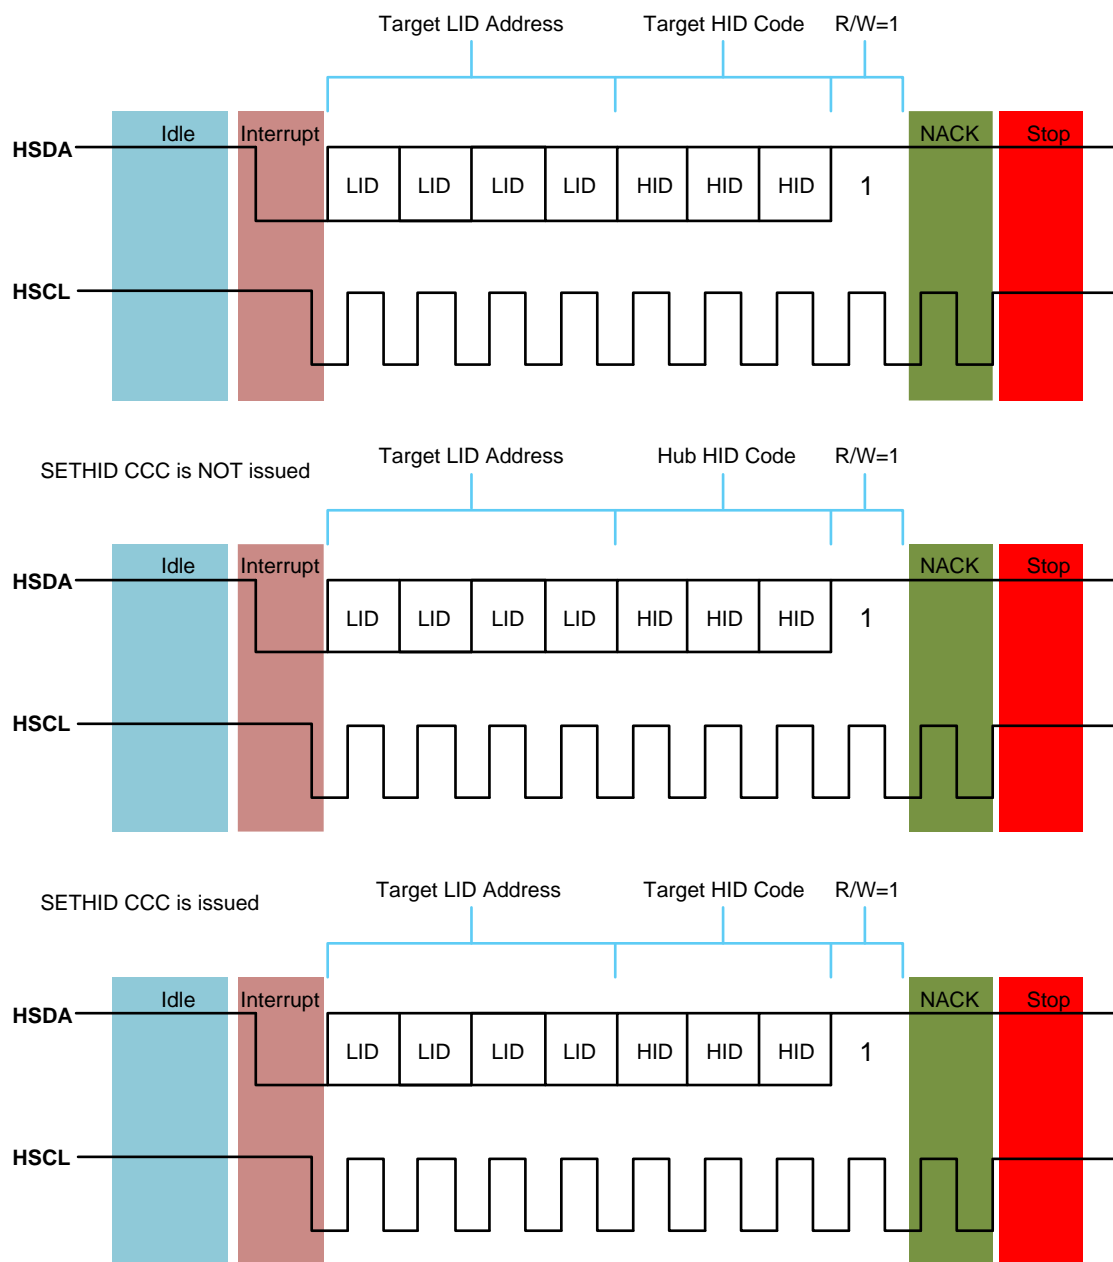

Figure 16. Local Device Interrupt; Host NACK followed by STOP
- The Host sends NACK on the 9th bit as shown in Figure 16 followed by a STOP command. In this case, the